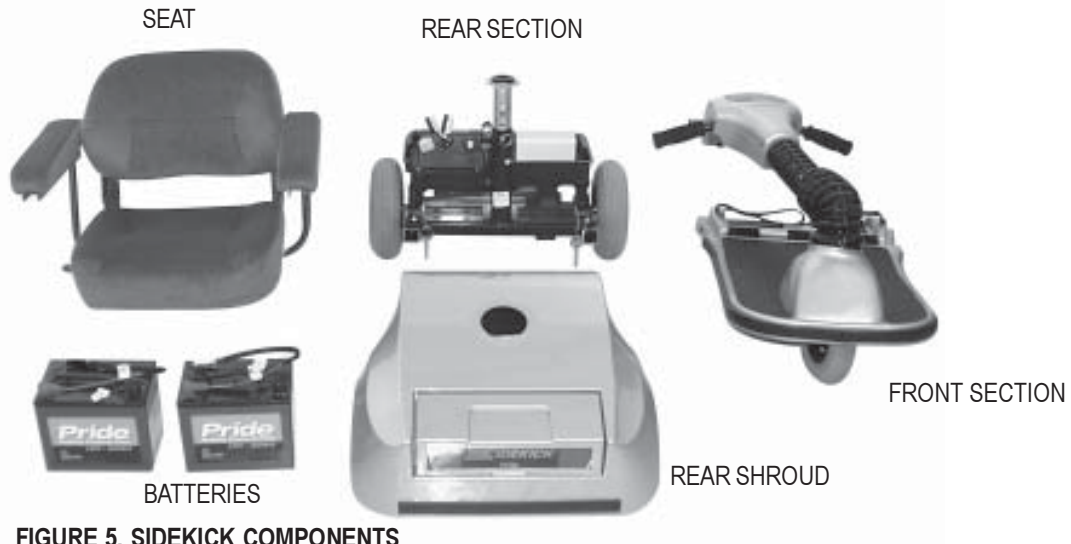

FIGURE 5. SIDEKICK COMPONENTS
Your Sidekick is a motorized electric scooter designed to enhance your personal mobility. Your Sidekick is an indoor/outdoor scooter designed to travel primarily on smooth surfaces, such as sidewalks, roads, parking lots, floors, and driveways. For easy transportation or storage, you can disassemble your Sidekick into six (6) components. See figure 5.